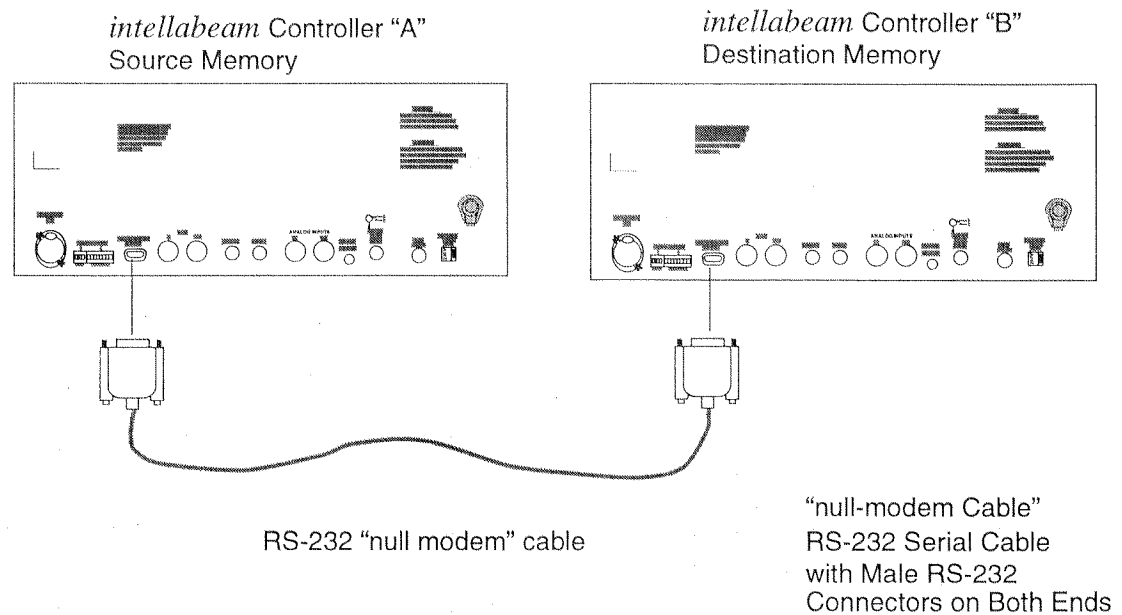

Figure 7.11. Crossloading Memory Between Controllers
Use this procedure to directly crossload (copy) the Memory contents from one controller to another controller. You do this by connecting an RS-232 “null modem” cable between the two controllers. A null modem RS-232 cable is similar to straight through RS-232 cable except that some of the wires are crossed wired to complete the protocol requirements. For example, the receive and transmit signals are cross in the cable. Refer to Figure 7.11.
2. Connect the “null modem” cable between the two RS-232 ports on the back of the controllers. Refer to Figure 7.11.